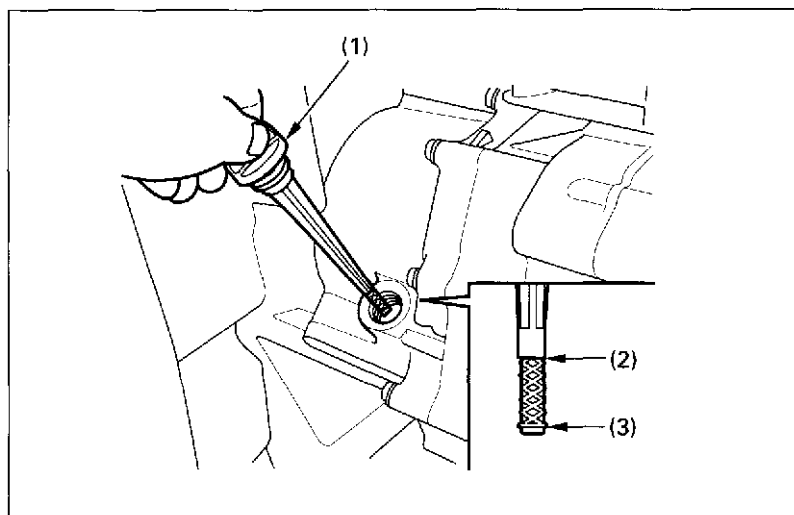

Fig. 2-21 (1) Oil filler cap/dipstick
The oil filler cap/dipstick (Fig. 2-21), on the front crankcase cover, is used to measure the oil level. The oil should be checked each day before operating the FOURTRAX and maintained between the upper level mark (2) and the lower level mark (3).